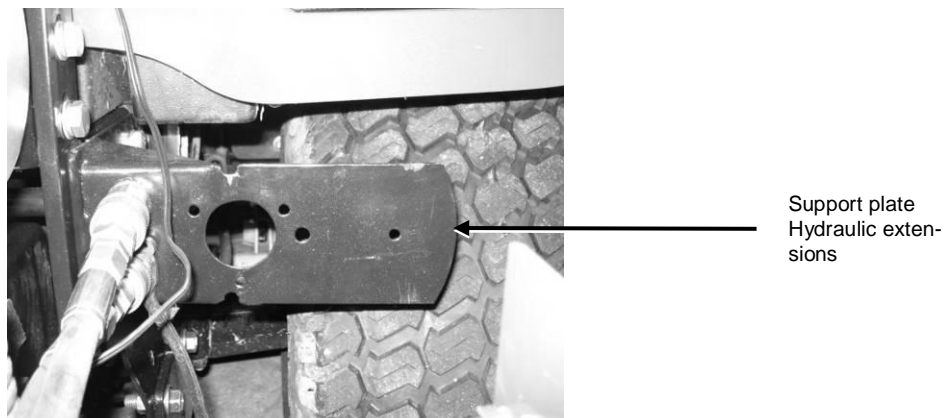

Fig. 7: Attach the hydraulic extension to the support plate
6. Hook the levers (4) into the hook plates of the transverse element.
7. Fasten the hydraulic extensions with the quick-lock couplings to the support plate provided for this purpose (see Fig. 7).